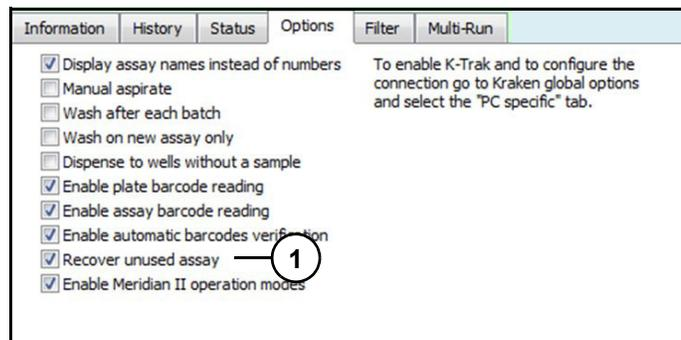

Figure 45
Kraken interface will automatically select options on "Options" tab (Figure 45), to allow instrument to automatically scan plates and assay tubes barcodes and to perform automatic barcodes verification during run.
In addition, option "Recover unused assay" (1) (Figure 45) will allow dispense head to dispense leftover reagent back into mixing trough before proceeding to next aspiration.